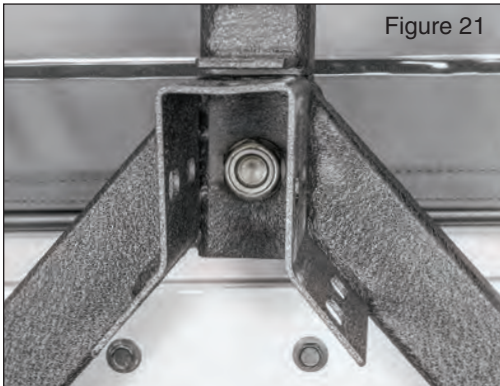

Figure 21
Locate the top tire carrier post. Insert the top post into the top of the installed tire carrier lining up the mounting holes. Using (1) 7/8" x 2.5" Hex head bolt, (2) 7/8" Flat Head Washers and (1) lock nut secure the top post in place (Fig 21).